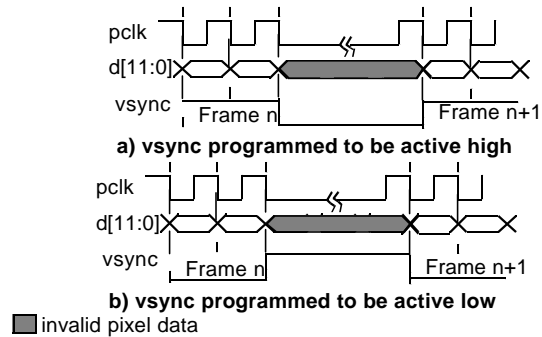

Figure 39. vsync in Level Mode
- Level mode should be used when the pixel clock, *pclk*, is programmed to operate in *free running mode*. In level mode the *vsync* output pin will go to the specified level (high or low) at the start of each frame and remain at that level until the last pixel of that row in the frame is placed on *d[11:0]* as shown in Figure 39. The *hsync* level is always synchronized to the active edge of *pclk*.